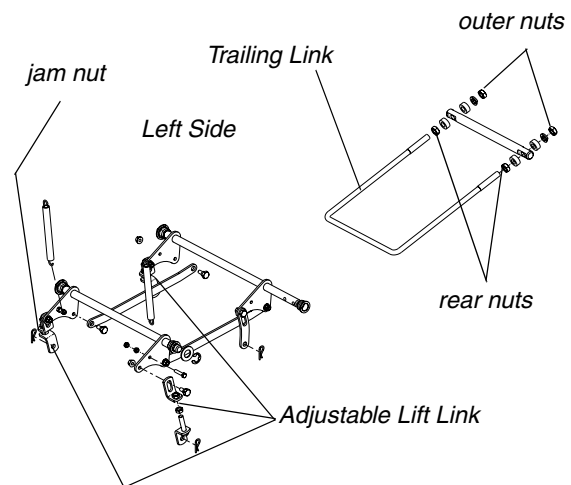

Figure 5
- If the dimension at the front of the mowing deck is 1/8"-1/4" (1/8" for 1-1/2" and 1/16" for 1") lower than the dimension at the rear of the deck (pitch) on each side of the mower, do not adjust. If not, you will need to adjust the Lift Links (See Figure 5).